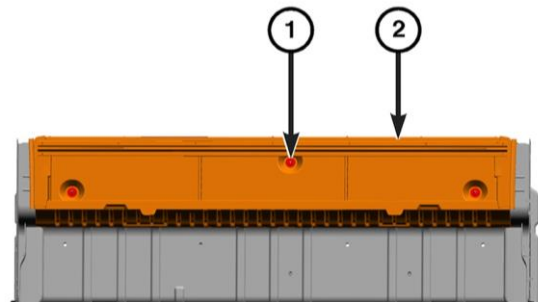

Figure 13 – Rear Storage Bin
4. Remove the four nuts that secure the two rear seat gap hider doors. Remove the two gap hider doors from vehicle (Figure 13).
5. Open the rear storage bin lid and remove the three fasteners that secure the storage bin (Figure 13).
6. Lift up on the rear storage bin enough to disconnect the wire harness connector for the subwoofer if equipped and remove the rear storage bin from vehicle (Figure 13).
23. Connect the wire harness connector to the rear storage bin subwoofer if equipped, then position the rear storage bin in the vehicle (Figure 13).
24. Open the rear storage bin lid and install the three fasteners that secure the storage bin, tighten securely (Figure 13).